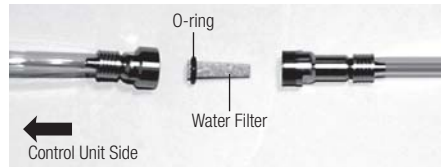

Fig. 26
- 2) When the water filter case is separated, the water filter can be removed as shown in Fig.26. Replace with a new one and reassemble the filter in the reverse order (Fig.26).
Assemble the water filter in the correct direction as shown in Fig.26.